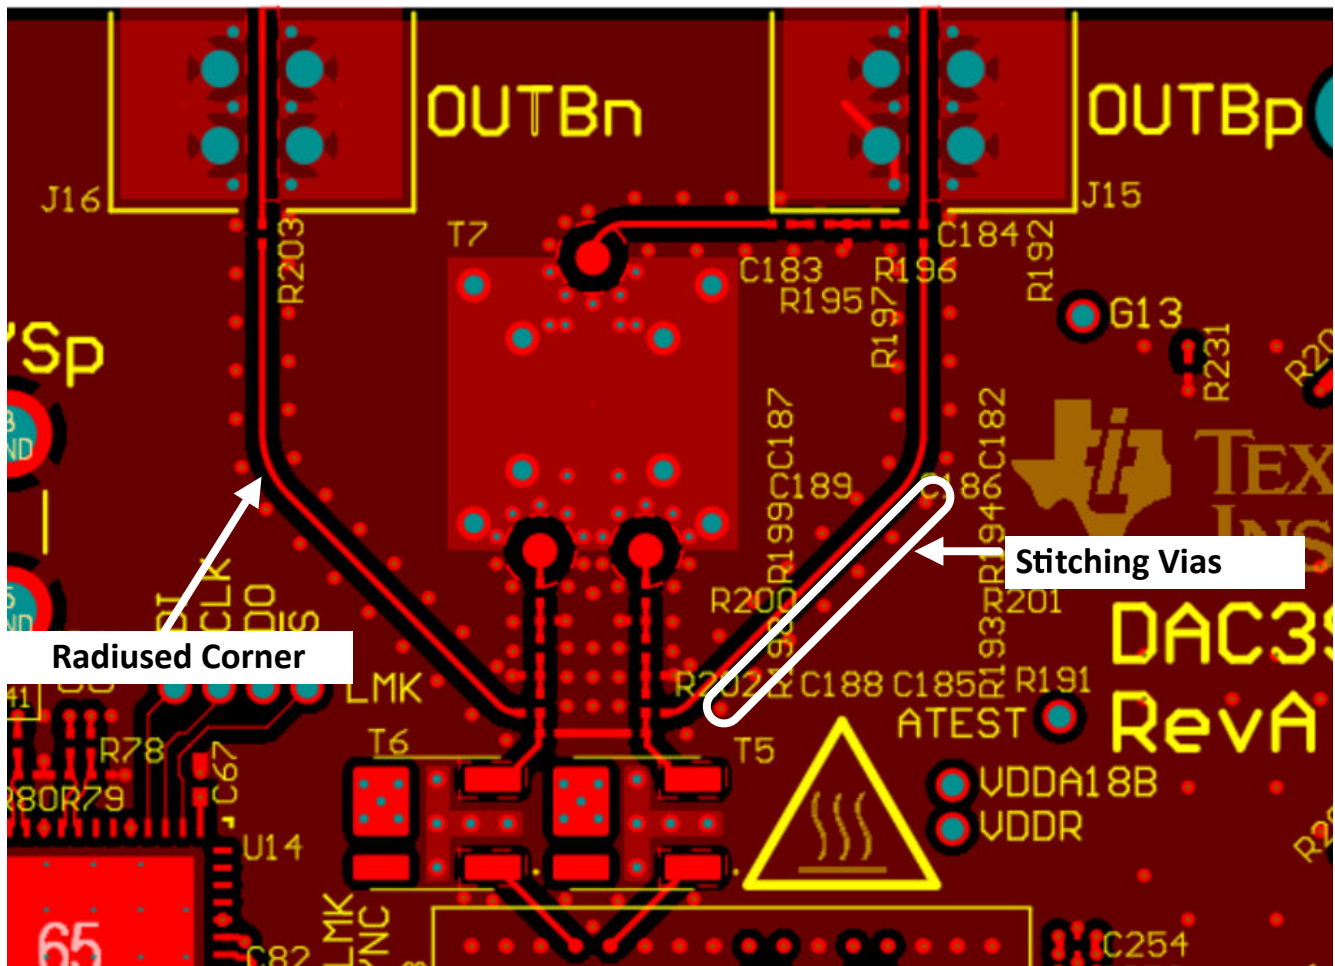

Figure 8-23. Radius Corner and Stitch Vias next to High_Speed Signal Trace
4. Use smoothly radiused corners and avoid 45- or 90-degree bends to reduce impedance mismatches on all high-speed inputs/outputs for both analog and digital signal traces. See Figure 8-23 as an example.